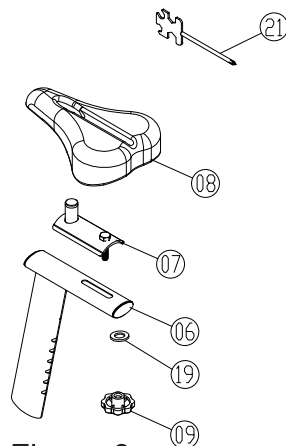

Figure 6
6. Fit the Rear Seat Adjustment Tube Assembly (Part 06), Seat Sliding Tube Assembly (Part 07) and Seat Cushion (Part 08) together with Flat Washers (Part 19), then secure all components using the star-shaped hollow knob (Part 09). The seat can be adjusted forwards and backwards; refer to Figure 6.